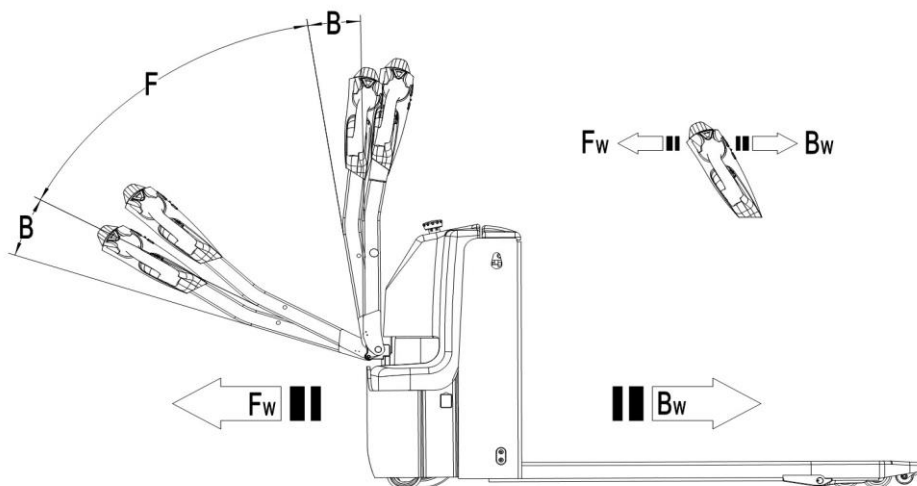

Fig. 9: Operating direction
Press the button switch (9) to start the vehicle by the combination lock, move the tiller to the operating zone ('F', fig.9).
Turn the accelerator button to the desired direction forward 'Fw.' or backwards Bw.'(fig. 9).